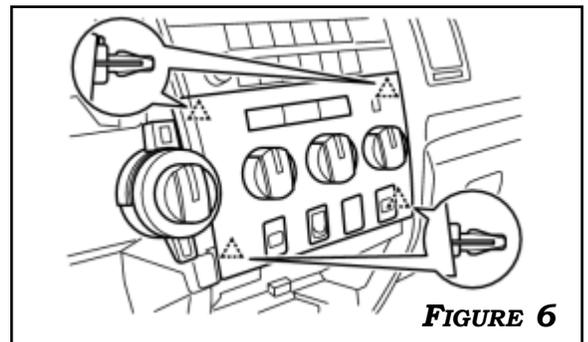

FIGURE 6
6. DETACH THE 4 CLIPS AND REMOVE THE INTEGRATION CONTROL PANEL AND THEN DISCONNECT THE CONNECTORS. **FIGURE 6**